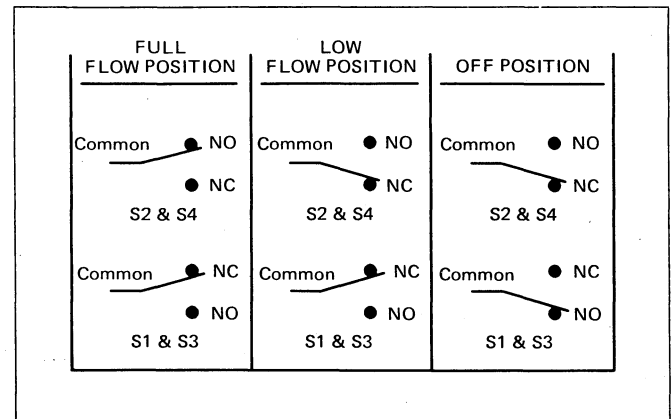

Figure 5. Switch Circuits.
3. After selecting the circuit hookup for proper operation or control (Figure 5) connect leads.